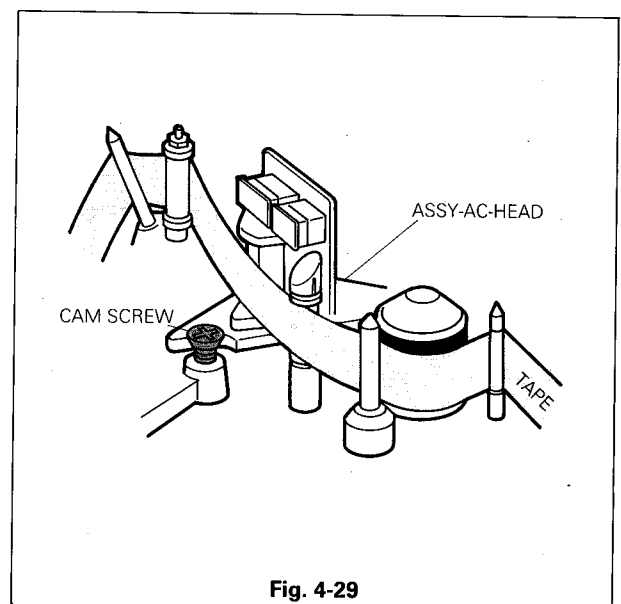

Fig. 4-29
- Rotate the phase adjusting nut (CAM SCREW) shown in Fig. 4-29 and adjust FM output to maximum.